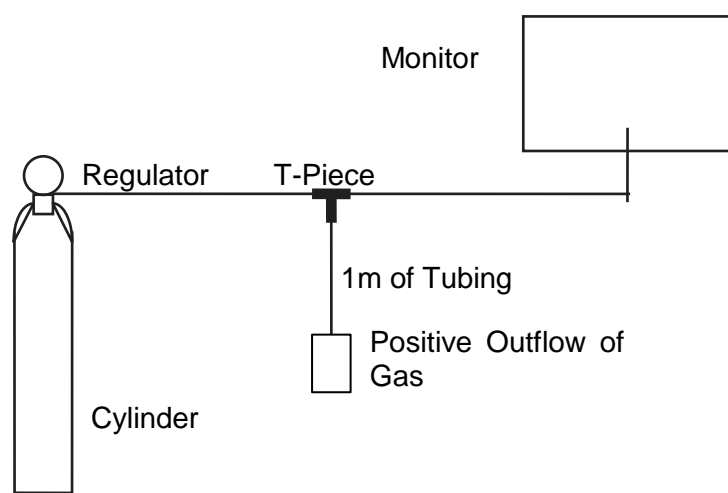

Figure 17: Connecting the calibration gas to the Guardian NG
- 15 i) To connect gas to the Guardian NG, supply the gas to the instrument via a pipe with a T-Piece and a one metre pipe running off and venting to atmosphere. (See Figure 17)